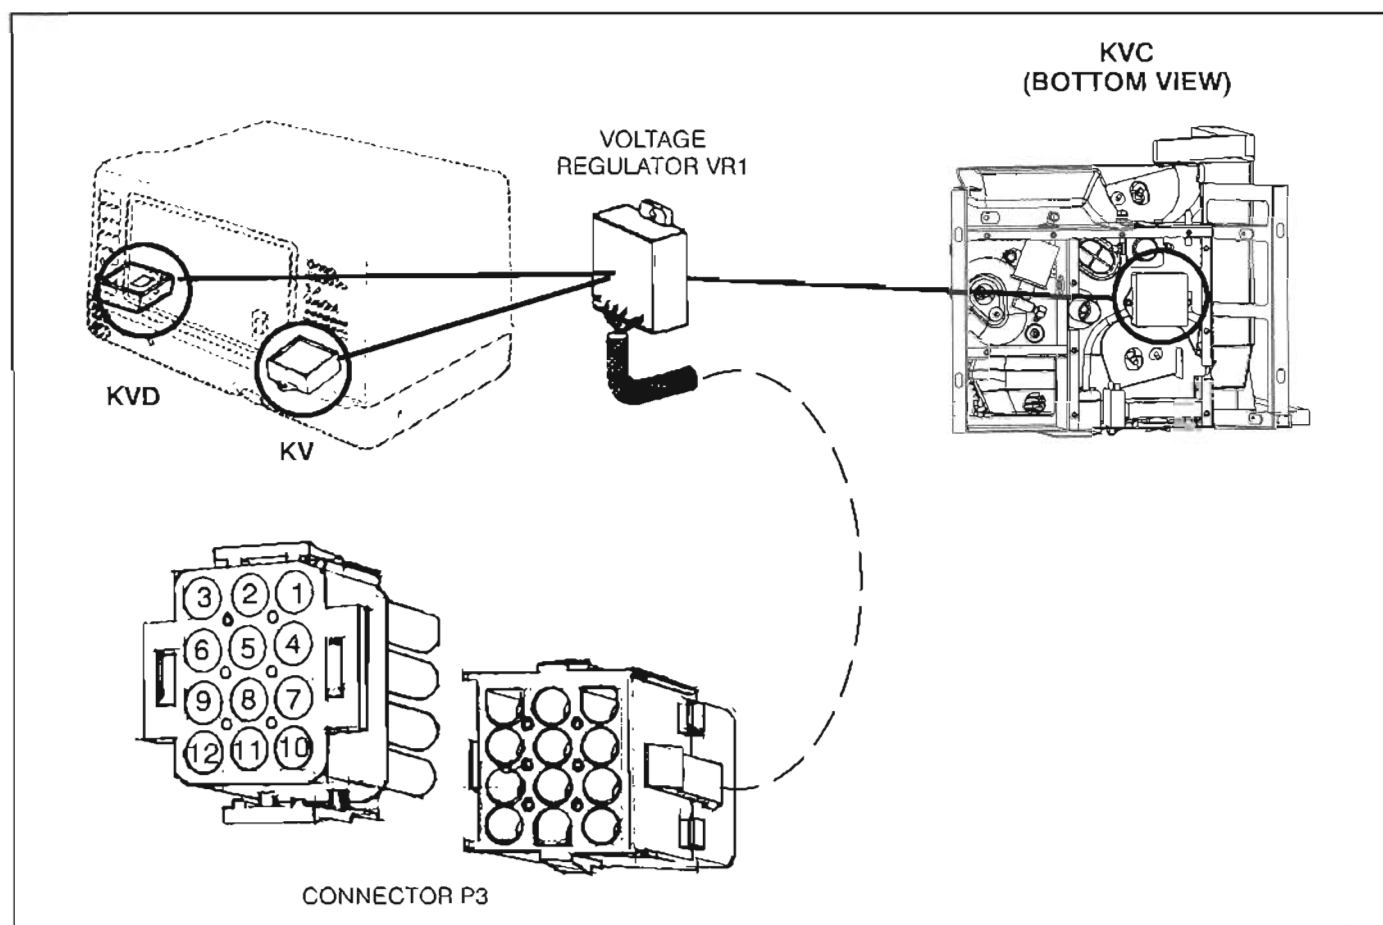

FIGURE 9-2. VOLTAGE REGULATOR LOCATION AND CONNECTOR P3
1. Disengage the wiring connector and remove the voltage regulator (Figure 9-2).
2. With the meter on *Diode Check*, test between connector terminal pairs 5-9, 7-9, 10-9, 11-9, 12-9, 10-5, 5-11, 5-12 and 5-3. (Figure 9-2). It is important that the positive lead of the meter be connected to the first terminal of each pair.
Connect a DC voltmeter positive (+) test lead into the voltage regulator plug (P1) at pin 9 and connect the negative (–) test lead into the voltage regulator plug at pin 10. The voltage regulator plug remains connected to the voltage regulator and test prods should be secured so that they are not being held during testing. See Figure 9-2.